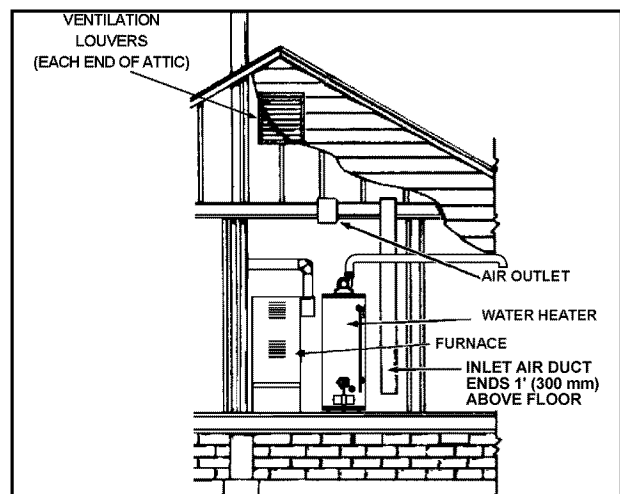

Figure 17
2. When communicating with the outdoors through vertical ducts, each opening shall have a minimum free area of 1 square inch per 4,000 Btu/hr (5.5cm²/kW) of total input rating of all equipment in the enclosure (see Figure 17).